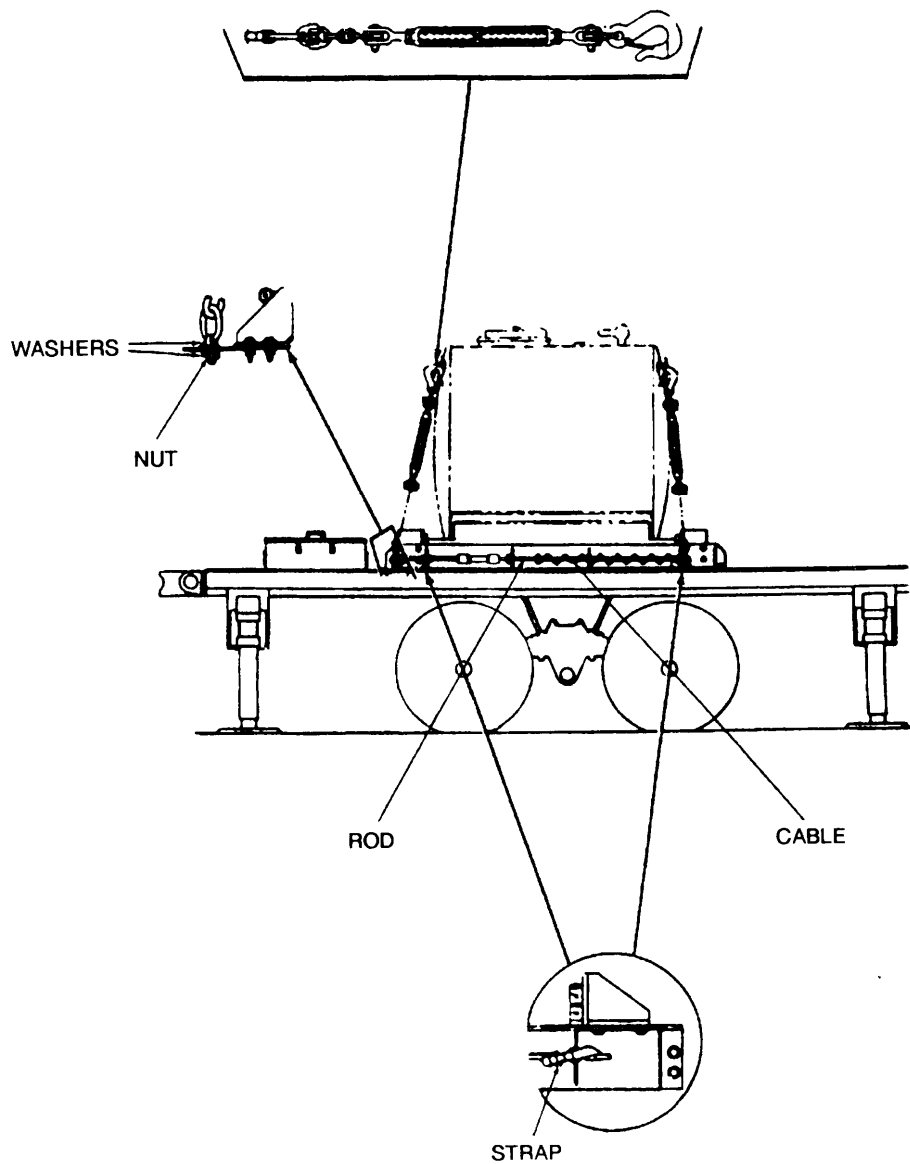

Figure 6-1. Five Ton M1061A1, Trailer Chassis
a. The trailer (Figure 6-1) on which the tank unit is mounted is a five-ton, four wheel, modified M1061A1 trailer chassis.